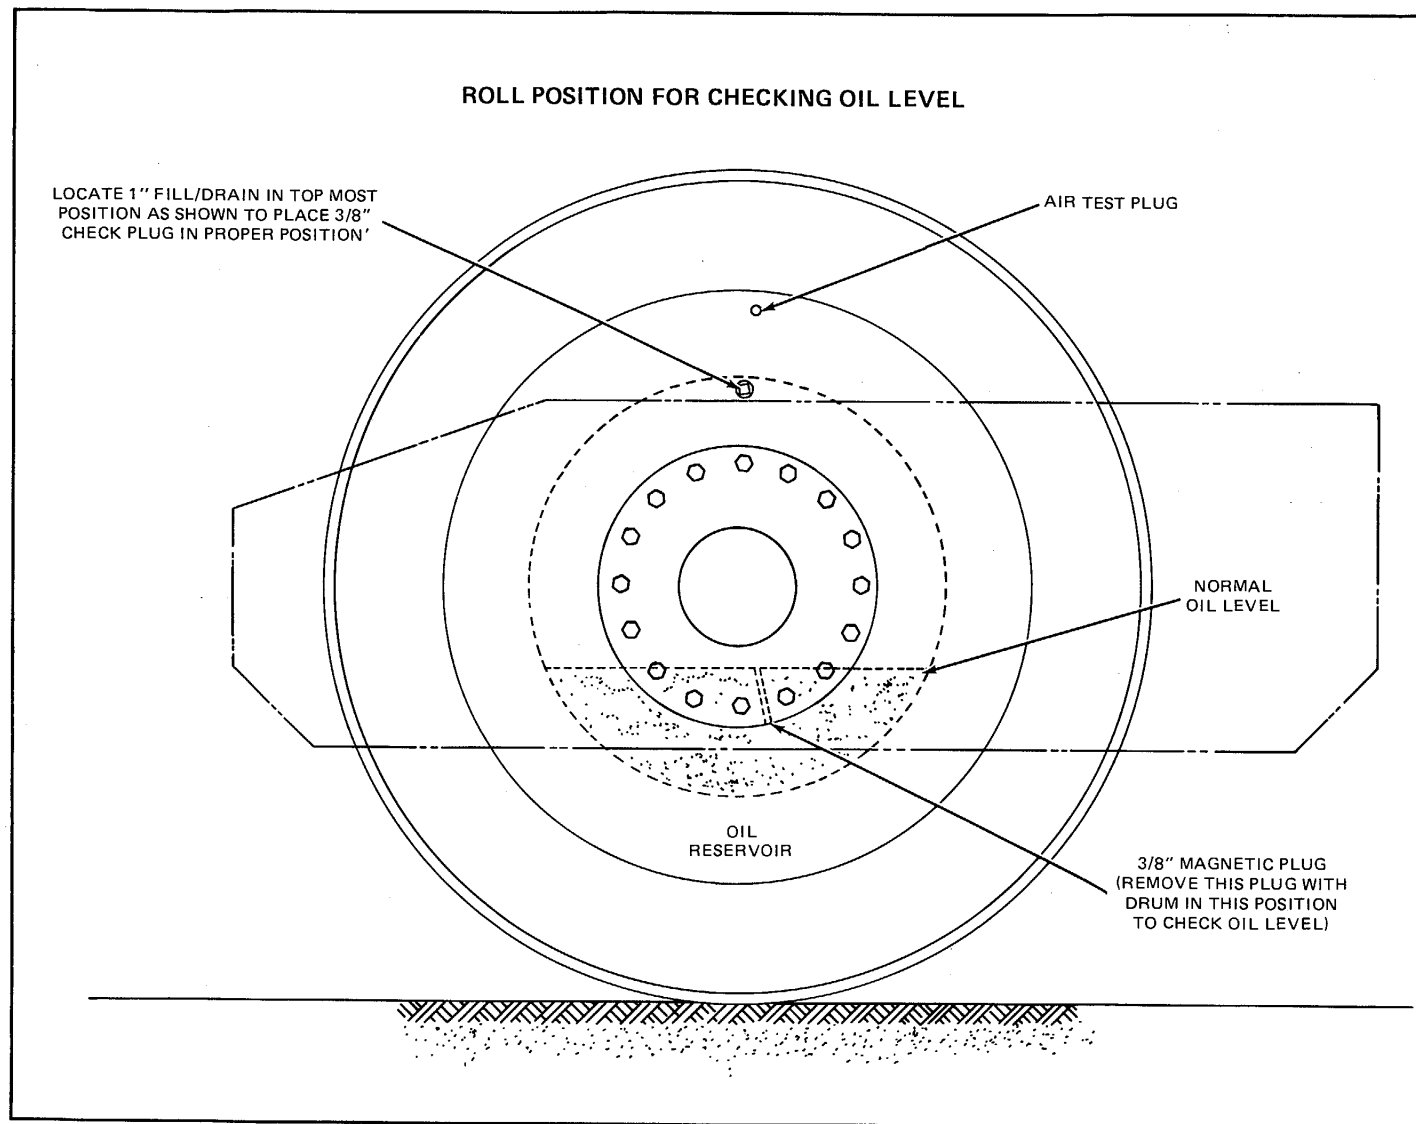

Figure 4. Roll Position For Checking Oil Level.
*Check each morning before operating roller. The roller must be on level ground when checking oil level and roll should be in a position so that the fill-drain plug (1-inch pipe plug) is in the top most position. This will put the oil level plug (3/8-inch pipe plug) in its proper location as shown in fig. 4.